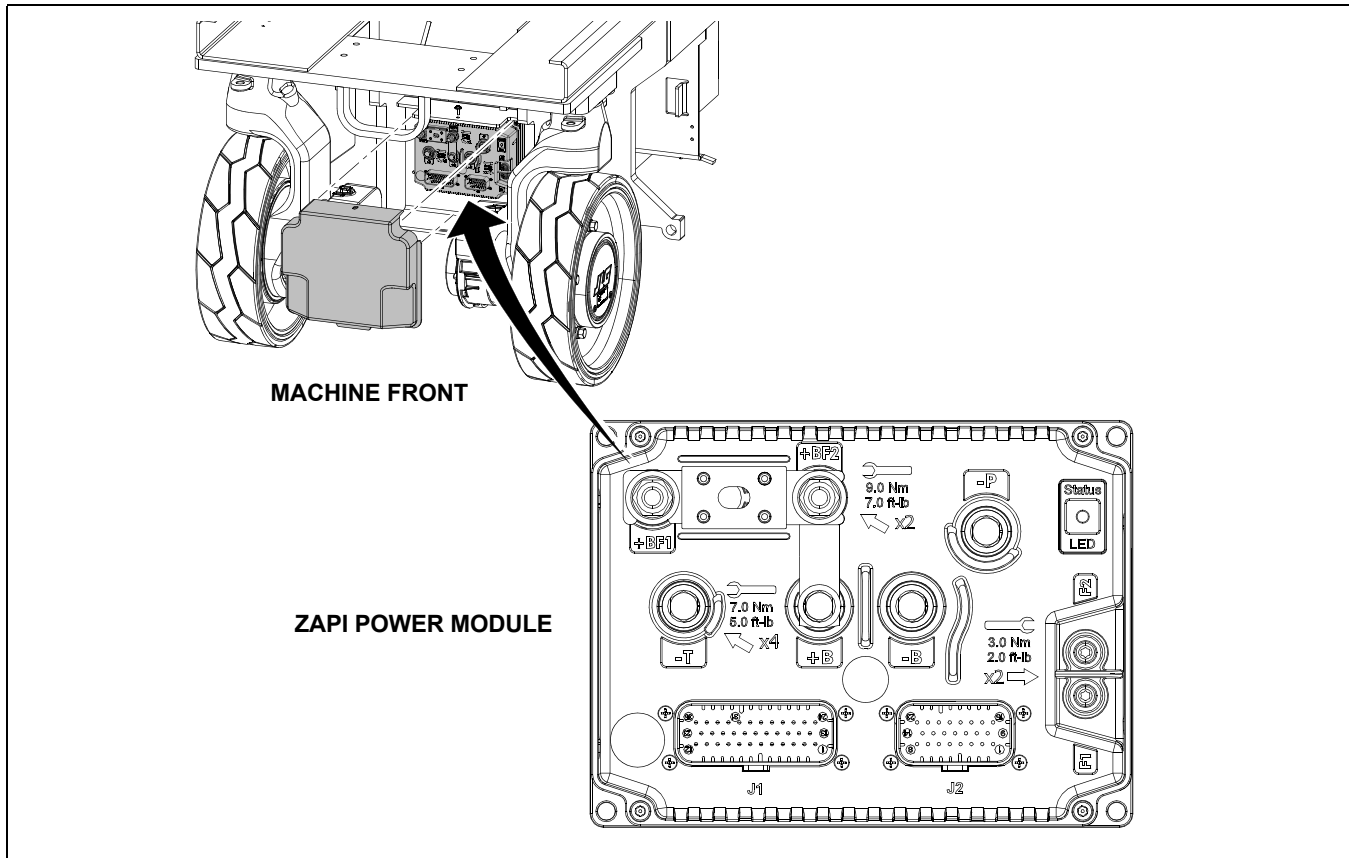

Figure 3-18. ZAPI Power Module Location
The power module is located behind a protective cover at the front of the machine as shown in Figure 3-18., ZAPI Power Module Location. Use the following instructions when replacing the power module.
5. When installing the new power module, be sure that the terminals are oriented as shown in Figure 3-18.